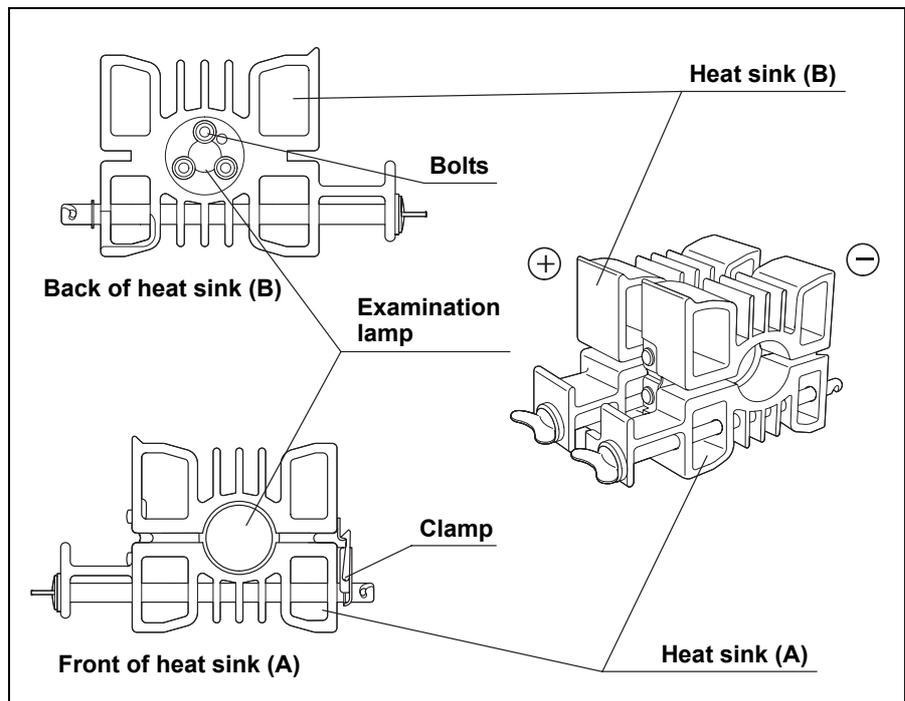

Figure 6.4
6. Using the hexagon wrench, loosen the three bolts on heat sink (B) (on the “+” side of the examination lamp or heat sink (B)) and remove heat sink (B) from the examination lamp (see Figure 6.4).